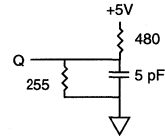

Fig. 2 OUTPUT LOAD EQUIVALENT
- t_{HZCE}, t_{HZWE} and t_{HZOE} are specified with CL = 5pF as in Fig. 2. Transition is measured ±500mV from steady state voltage.